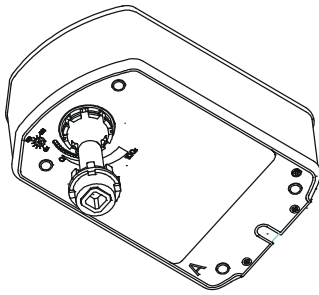

Figure 12: Inserting the Drive Shaft
4. Insert the drive shaft into Side A (Figure 12).